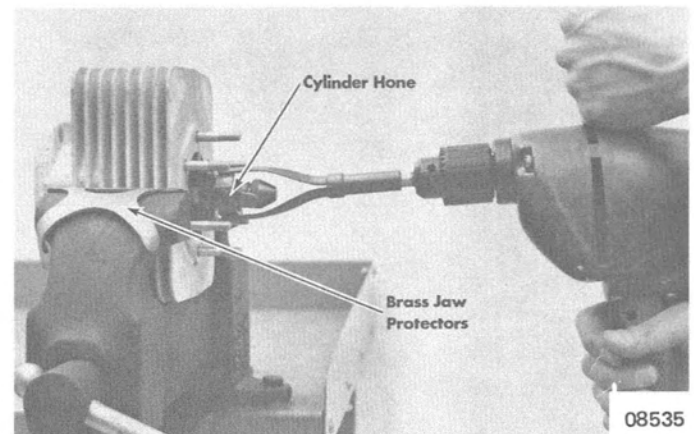

Figure 5. Honing Cylinder
1. Follow recommendations of the hone manufacturer for correct usage of hone and proper cleaning and lubrication during honing. (Figure 5)